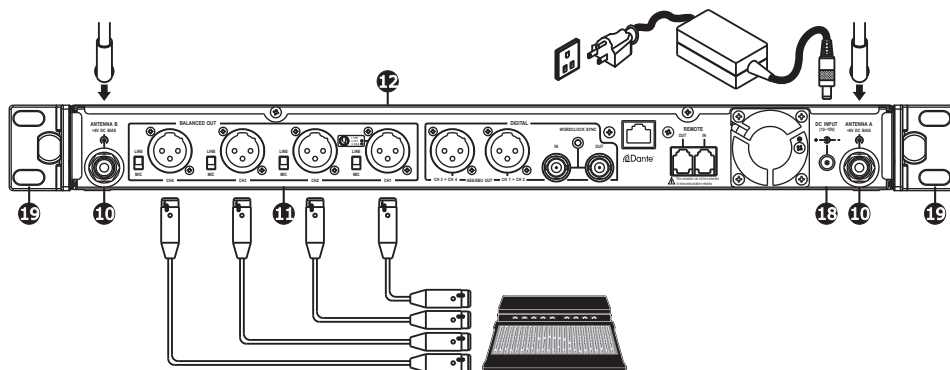

Fig.2
1. Connect two antennas to each of the antenna connectors ⑩ on the rear panel, Fig.2.
Connect the power cord to the receiver optional AC power input socket ⑬ and plug the other end into an AC 100~240V power source, Fig. 2.
- (A) Each channel signal output can be connected to the mixer or amplifier's MIC IN using a balanced XLR connector, Fig.2.
- (B) Volume Switch: Line or Mic level selection. To match input gain of mixer or amplifier.
- (C) LINE output connection: Connect receiver's balanced output connector to the "LINE IN" input connector of mixer or amplifier using the XLR to 6.3 ϕ cable and switch the volume switch to "LINE" position.